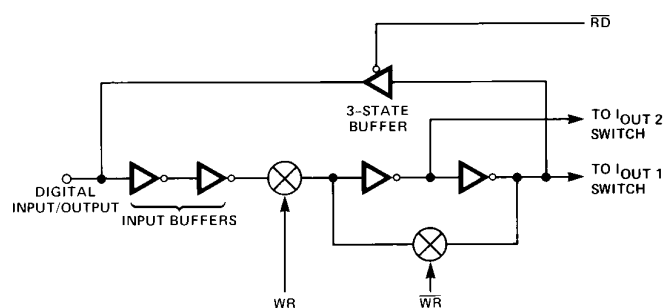

Figure 5. Digital Input/Output Structure
Figure 5 shows the digital input/output structure for one bit. The digital  $\overline{WR}$ ,  $\overline{RD}$ , and  $\overline{DS}$  controls shown in the figure are internally generated from the external  $\overline{A/B}$ ,  $\overline{R/\overline{W}}$ ,  $\overline{DS1}$ , and  $\overline{DS2}$  signals. The combination of these signals decide which DAC is selected. The digital inputs are CMOS inverters, designed such that TTL input levels (2.4 V and 0.8 V) are converted into CMOS logic levels. When the digital input is in the region of 1.2 V to 1.8 V, the input stages operate in their linear region and draw current from the +5 V supply (see Typical Supply Current vs. Logic Level curve on page 6). It is recommended that the digital input voltages be as close to  $V_{DD}$  and DGND as is practical in order to minimize supply currents. This allows maximum savings in power dissipation inherent with CMOS devices. The three-state readback digital output drivers (in the active mode) provide TTL-compatible digital outputs with a fan-out of one TTL load. The three state digital readback leakage-current is typically 5 nA.
**General Ground Management:** AC or transient voltages between AGND and DGND can appear as noise at the DAC8408's analog output. Note that in Figures 5 and 6,  $I_{OUT2A}/I_{OUT2B}$  and  $I_{OUT2C}/I_{OUT2D}$  are connected to AGND. Therefore, it is recommended that AGND and DGND be tied together at the DAC8408 socket. In systems where AGND and DGND are tied together on the backplane, two diodes (1N914 or equivalent) should be connected in inverse parallel between AGND and DGND.